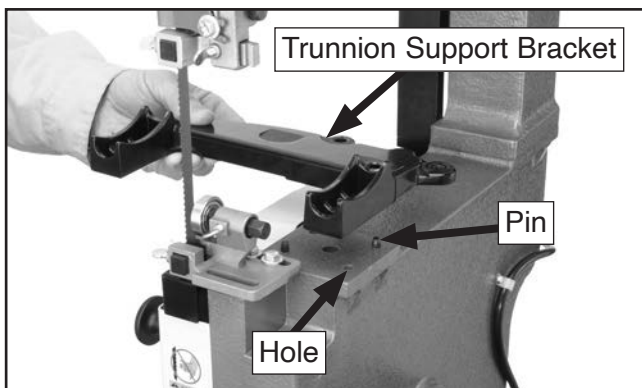

Figure 20. Aligning trunnion support bracket with pins and bolt holes.
1. Align the trunnion support bracket with the pins and bolt holes in the body, as shown in **Figure 20**.